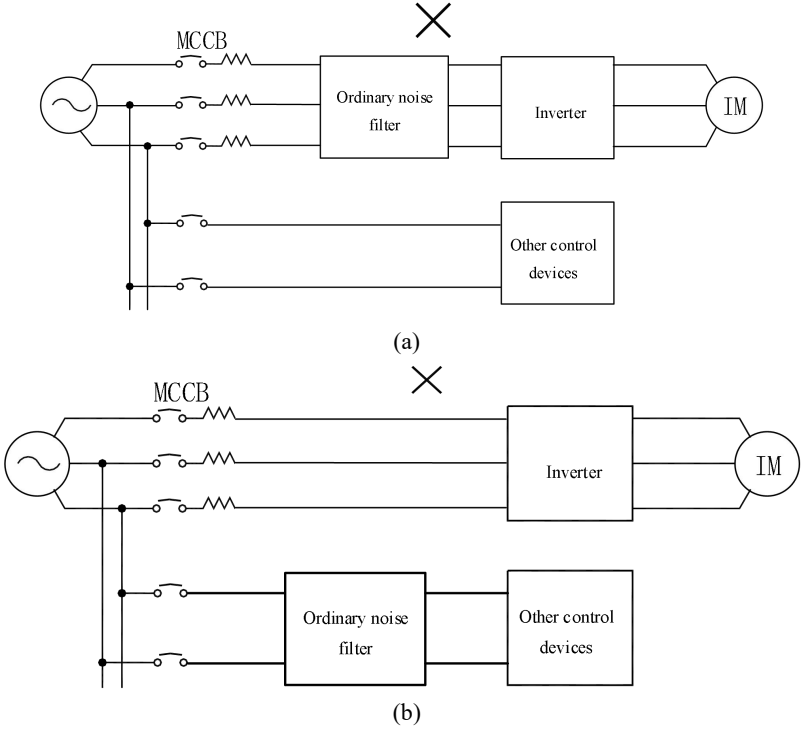

Fig. 3-6 Incorrect Installation of Noise Filter
- The correct and incorrect installations of the noise filter are shown in Fig. 3-5 and Fig. 3-6.